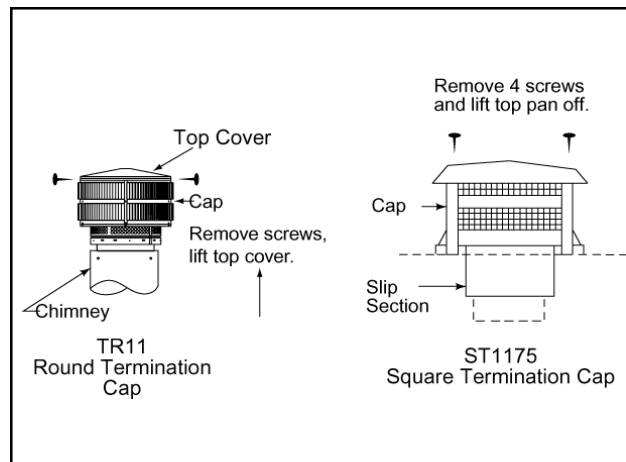

Figure 25
- Remove the termination cap or housing top. See Figure 25.